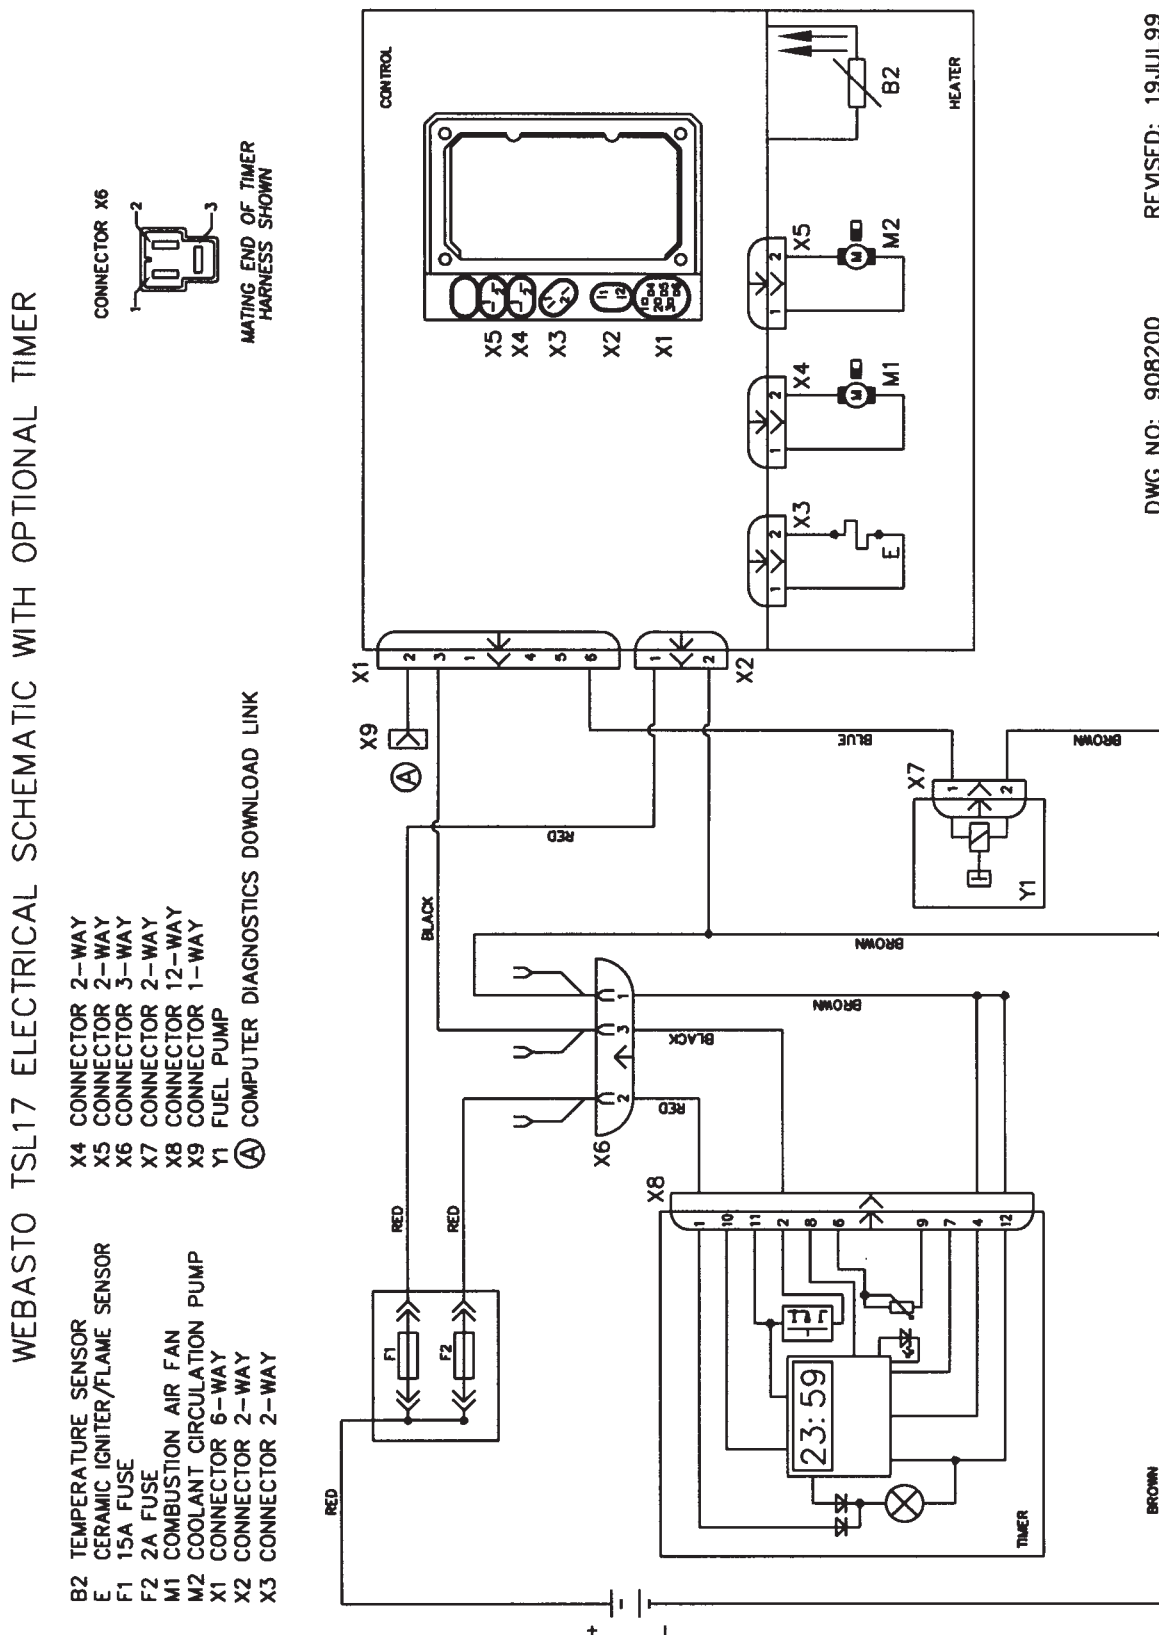

Fig. 411: Wiring Diagram - Thermo Top C (TTC) with Optional Digital Timer
6. Connect the terminals of the harness to the timer. See figure 409 below and wiring diagram figure 411 for reference.
1. Remove fuse F1 (15 Amp), refer to wiring diagram figure 411 for identification.